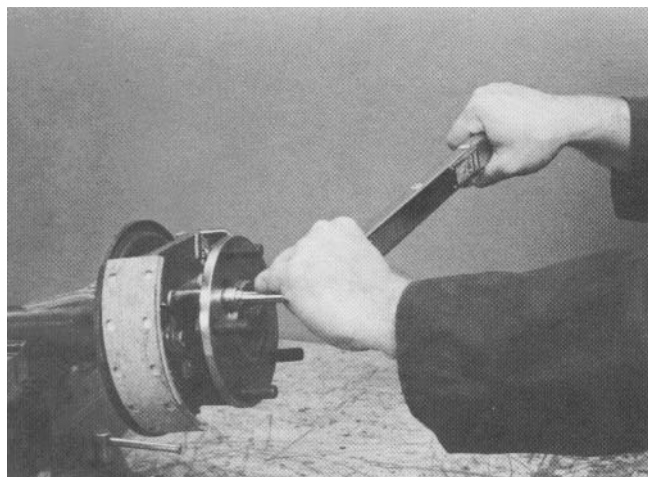

Figure 17
6. Use medium strength Loctite thread locker and install new bearing retaining bolts, washers, and nuts. Start the nuts onto the bolts by hand. Tighten the nuts in an alternating pattern so the bearing is drawn into the axle housing evenly (Fig. 17). Tighten the nuts to 16 to 20 ft-lbs. (22 to 27 Nm).